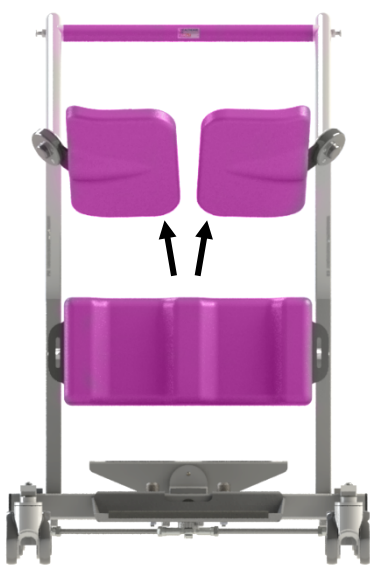

Figure 10
1. On the front face of the product, take one hand and holding the base of each seat (See Figure 10), pull upwards in an arc movement until it reaches the open position. (See Figure 11)